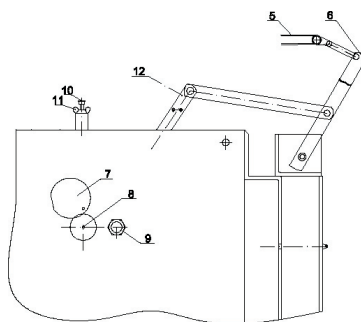

Fig. 8
Remove the small protection grid and then take the cap off (Fig. 8 pos. 7). Now turn the drum to the right position for releasing and removing the drum screw (Fig. 8). Before loosening of the drum screw, make sure to engage the brake by shifting the Lever (1) in figure (7) to the (AUS) position.
Set the hydraulic cylinder of the tractor three-point hitch in its lowest position. Firmly settle the winch down on the skid and engage the tractor manual brake. NEVER start pulling operations before having securely and firmly settled the winch in a stable position. Pull the green line (Pos. 5) to shift the Lever 12 in its EIN position (Fig. 8). The wire rope will now start to wind up onto the drum. To stop winding simply release and set the green line loose. When doing so, the brake immediately stops the drum and keeps the load away.
Proper clutch settings will ensure optimum pull force. The clutch is set by the manufacturer during final testing of the product before shipment. However, possible wear of the lining may require some extent of adjustment as the time passes. Clutch adjustment should be performed every time when your winch no longer reaches the required pull force. For clutch adjustment attach a torque wrench to the green line. If you don't have any torque wrench available you can also use a spring balance of sufficient measuring scale. Attach the torque wrench (or scale), apply a 350 N (35 kg) force to the line (Pos. 5, Fig. 8) and make sure that the clutch slowly shifts towards the winch frame as you apply the force and stops moving when hitting against the winch. If the force applied is too small, tighten the nut (Pos. 9, Fig. 8) by turning it clockwise and making sure that as you do this the clutch lever gradually shifts towards the winch frame and stops there. Keep tightening until the required force is reached that is till the lever 6 backs away from the winch. Finally slightly turn the nut anti-clockwise to release it a little bit. Now the clutch is set and ready to work.
To facilitate winding of the wire rope, perform prebrake regulation with the screw (10) and respective wingnut (11) (Fig. 8). Exact prebrake regulation will also prevent the rope from unwinding excessively fast or accidentally slipping off the drum. Extreme fast unwinding and abrupt brake disengagement may cause severe damages to the wire rope. Exact prebrake regulation occurs when the rope can be effortlessly spooled off the drum. The prebrake arrangement must be disengaged for uphill skidding operations in order to ensure easier pulling of the rope.